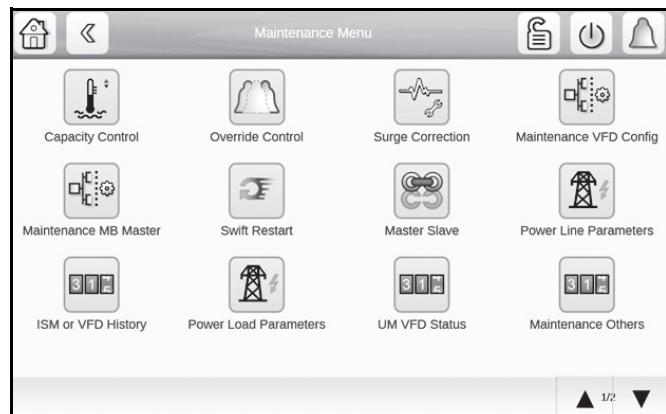

Fig. 35 — Maintenance Menu Calibration, Page 1
1. Go to **Main Menu → Maintenance Menu → Temp Sensor Calib**. See Fig. 35 and 36.